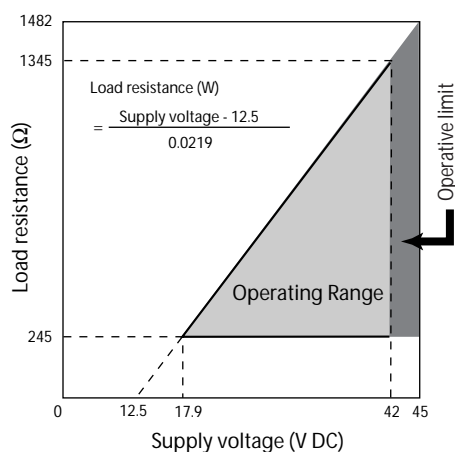

Figure 3 Supply voltage vs. load resistance characteristics
17.9 to 42V DC. A load resistance of 250 Ω or more is necessary between loops. See Figure 3.